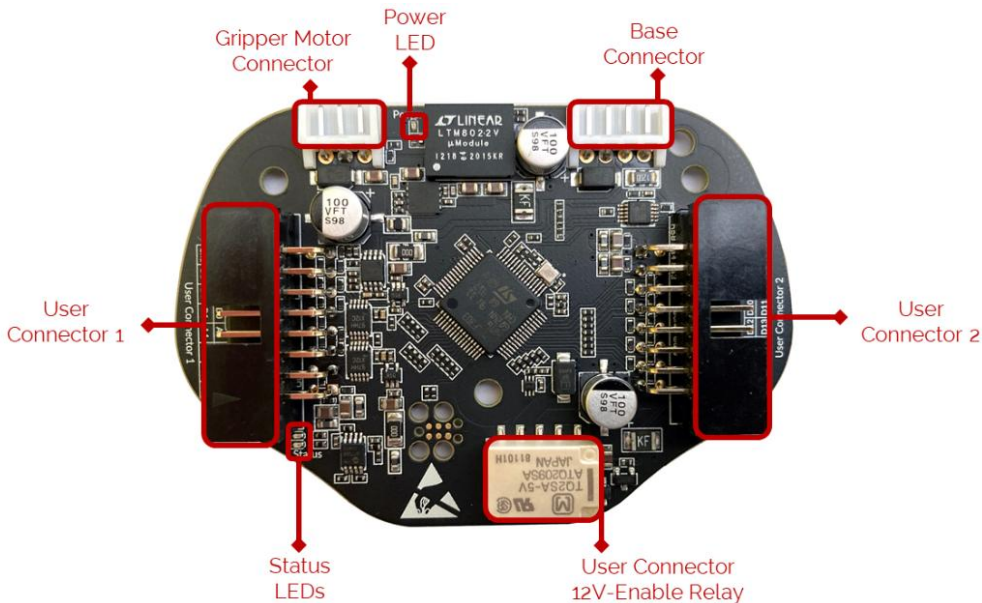

Figure 8. QArm End-Effector IO Board
The QArm's end-effector comes equipped with a Data Acquisition (DAQ) PCB with two user connectors, two ADCs and a relay for enabling 12V. These components are summarized in Table 5 and displayed in Figure 8. Note that while the end-effector board provides connections for external user devices, users are responsible for certifying any modifications or additions they make to the default configuration.
* the 12V supply is toggled ON/OFF via the 12V-Enable relay (fig. 8) via digital I/O pin 18